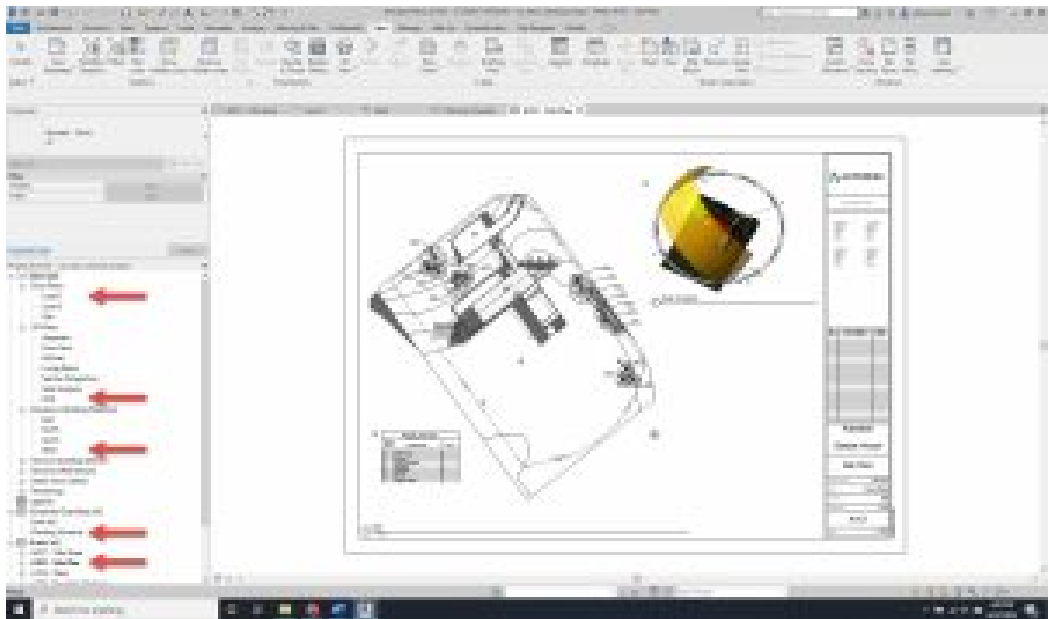

Figure 1.7 Opening views from the Project Browser
1. Open the following views from the Project Browser by double-clicking the name as shown in Figure 1.7